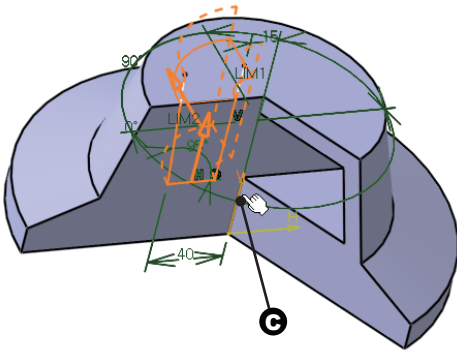

Fig 6-31 Preview of the Groove
2. Select the edge **C** in Fig 6-31 as the axis and set the **Reverse side** and/or **Reverse direction** options so that the arrows point as shown in Fig 6-31. You can reverse the direction by clicking the arrow head in the preview.